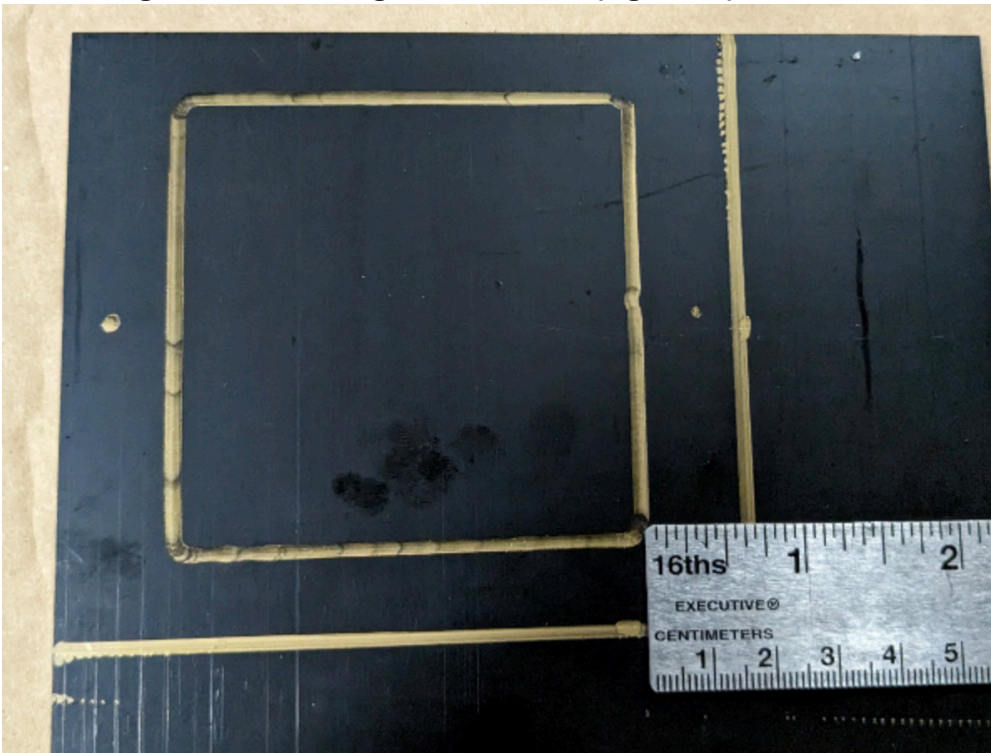

Figure 18
18. Using a tab measure and marker, offset the previously marked line on the black plastic sheet by $\frac{5}{8}$ ". Then, using a knife, cut along the offset line. (Figure 18)